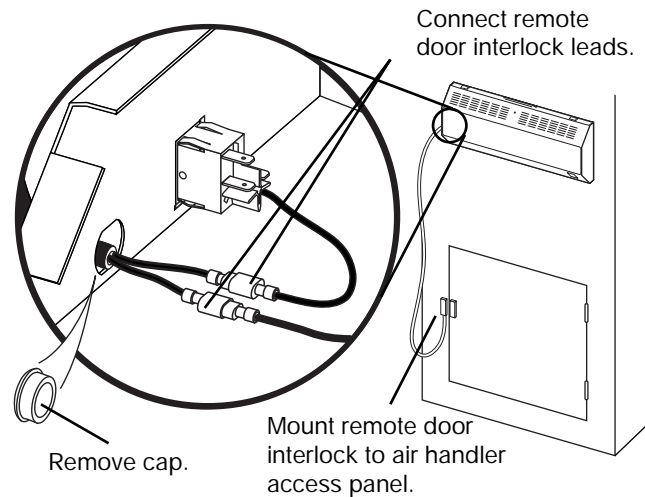

Fig. 5 Remote door interlock switch installation.
1. Remove cap as shown in Fig. 5.